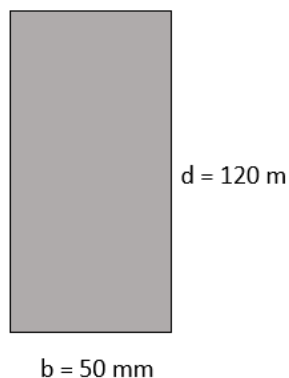

Figure 1a- Cross section
- Q1)** Figure 1a and b show a simplified model of a truck chassis. Part of the structure can be represented by a simply supported beam. It is assumed that the engine weight acts as a point load towards the front of the beam and the fuel and tank act as a point load towards the rear of the beam. the vehicle's body weight can be assumed to act as a uniformly distributed load across the entire span. The frame is made from high strength steel with $E = 200 \text{ GPa}$.